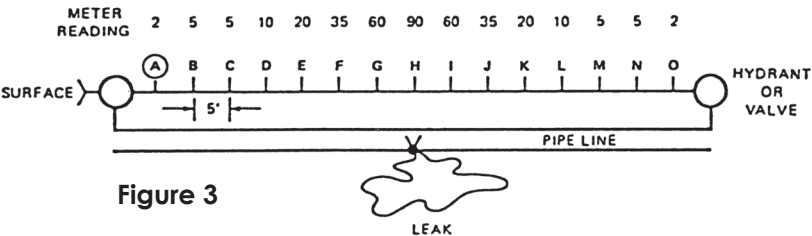

Figure 3
- A. First test all pre-selected accessible test points where you can make physical contact. (See Figure 3 for typical test points).